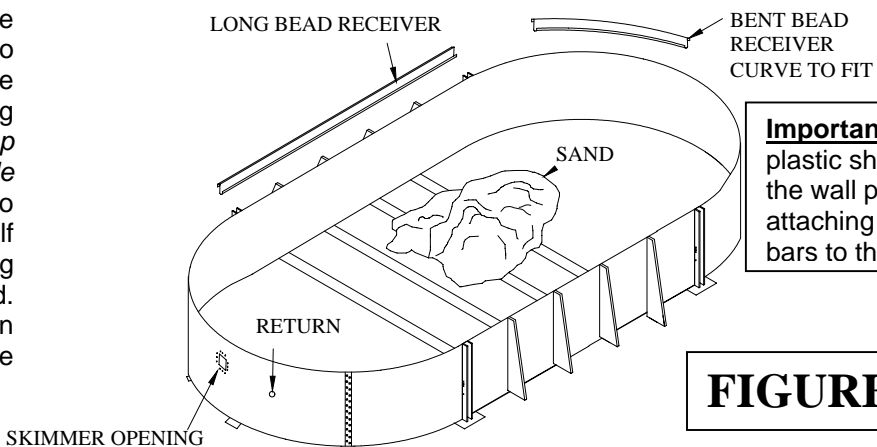

FIGURE 9
Step 9 cont: See Figure 9, 10 and 11. Place the required amount of sand inside the pool area. Starting at the center of a bottom clip, insert the pool wall into the wall channel around the entire pool area. Make sure the skimmer and return cutout are at the top of the wall and not over a clip or upright. Attach the pool wall